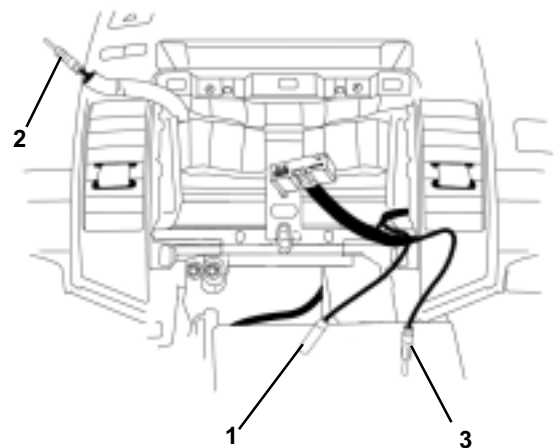

FIGURE 31
NOTE: MAKE SURE THERE IS ENOUGH SLACK TO MAKE CONNECTIONS TO THE FM MODULATOR AND CIGARETTE LIGHTER POWER. (SEE FIGURES 31, 34 AND 35)
3. CONNECT THE FM MODULATOR FEMALE ANTENNA PLUG (1) TO THE VEHICLE ANTENNA MALE PLUG (2). BE SURE TO ALLOW ENOUGH SLACK TO CONNECT THE FM MODULATOR MALE ANTENNA PLUG (3) TO VEHICLE AUDIO UNIT. (SEE FIGURE 31)